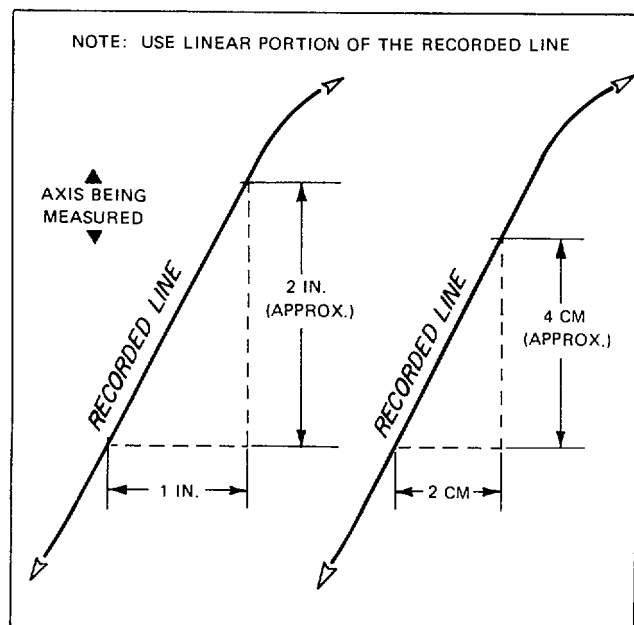

FIGURE 5-13. SLEWING SPEED DETERMINATION
- e. Measurement is shown in Figure 5-13.